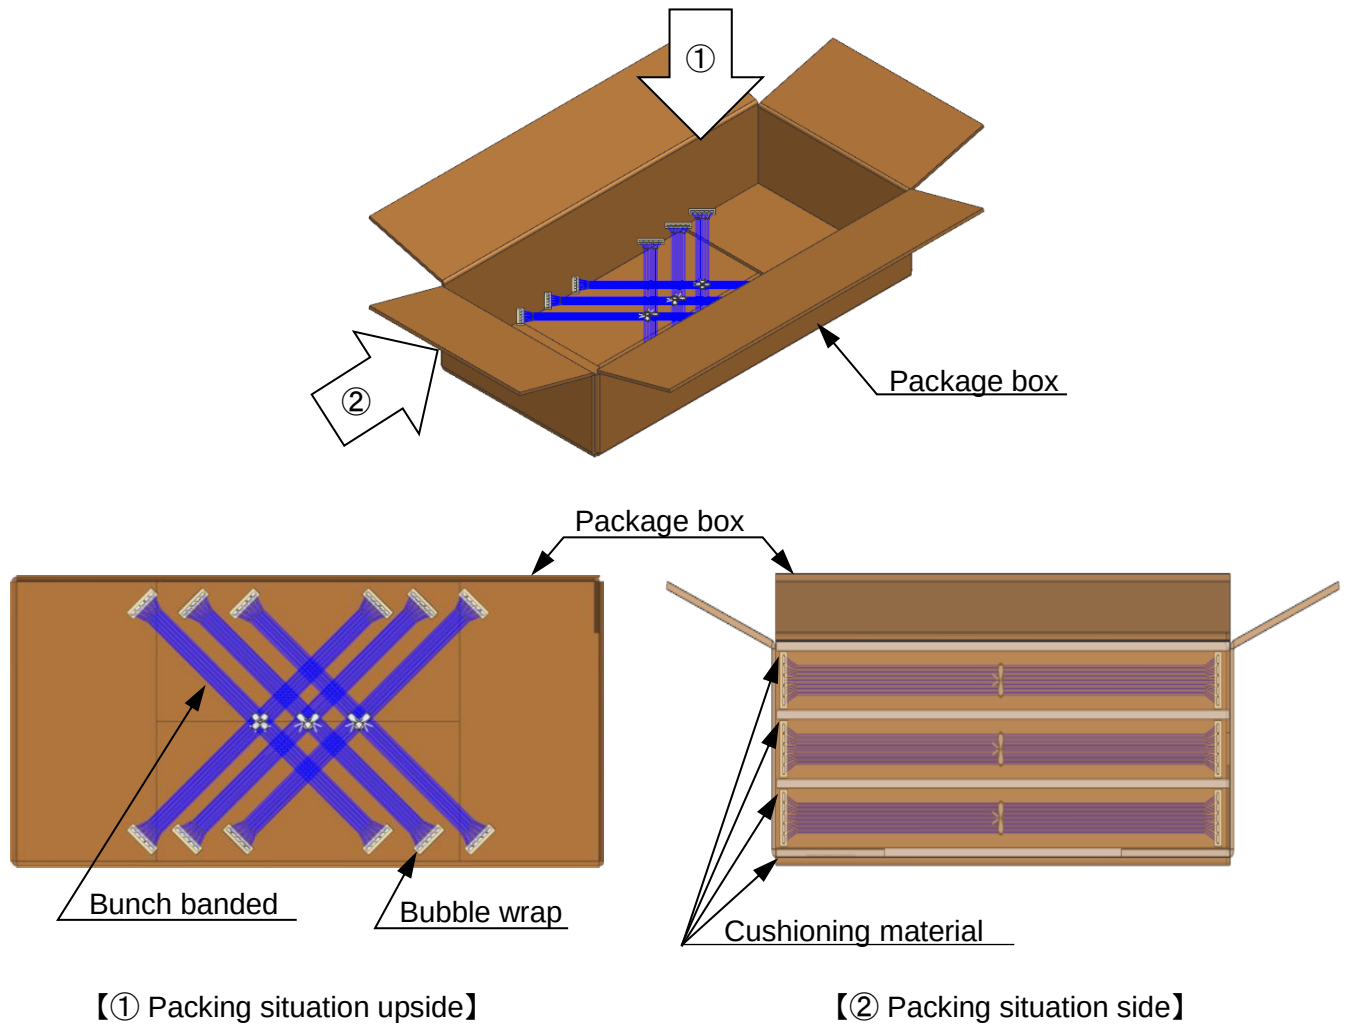

Fig.8-2 Packing condition
Figure below (**Fig. 8-2**) is one of examples for recommended reference. Please take measure not to add force to connector for a long period of time by stacking if you pack by different packing method for long harness.
※ When packing bundle of harness after processing in a package box, please follow instructed packaging and avoid applying excessive load or force to harnesses. (cross shape) (**Fig.8-2 ①**)
※ Please lay air packing etc. on the bottom of package box. In order to prevent force from applying to connectors for a long time by piling up package boxes, please lay air packing etc. (**Fig.8-2 ②**)